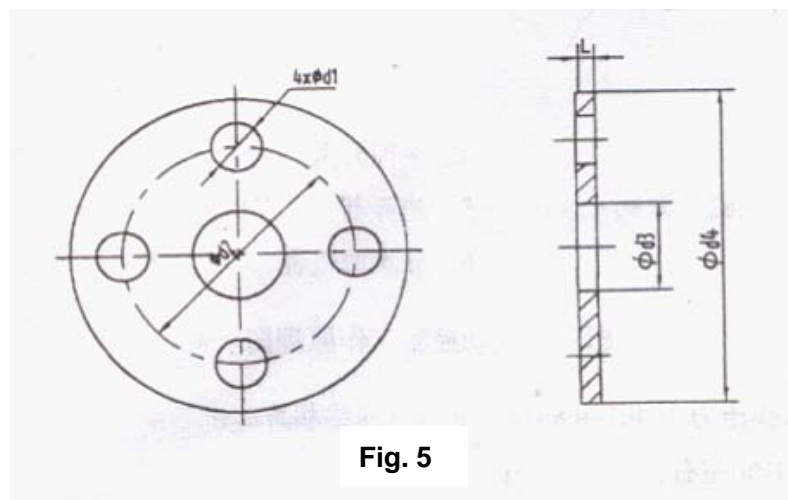

**Fig. 4**
be so mounted that the indicating arrows on the sprockets of two main shafts can be in the same horizontal line. The chain should be tensioned properly for smooth driving and rotating in a direction consistent with that shown in Fig.4, and at last the hood shield is to be installed.
7.5 After several hours' operation the chain should be tensioned as properly as the tensioning degree shown in Fig. 4 (reference size:  $f=L/50$ ), and check other fasteners.